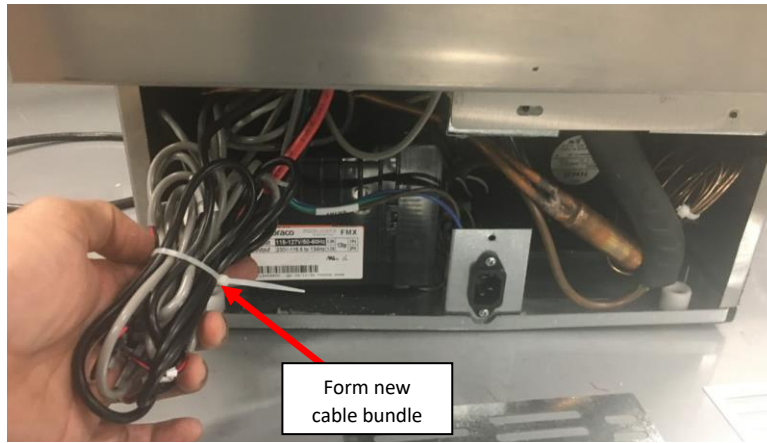

Figure L22: Wire Bundle formed.
22. Roll the replacement UI Harness in a bundle with all the other loose wires and secure it in a bundle with the Cable Tie supplied. See Figure L22.